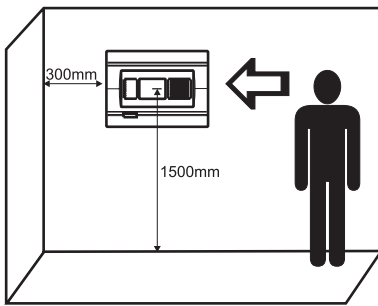

Figure 1
- The panel must be installed in a clean dry place and must not be subjected to impact or vibrations (Figure 1). It must be situated far from heating appliances. The temperature must be within -5°C and + 50°C. The fire panel is not waterproof!